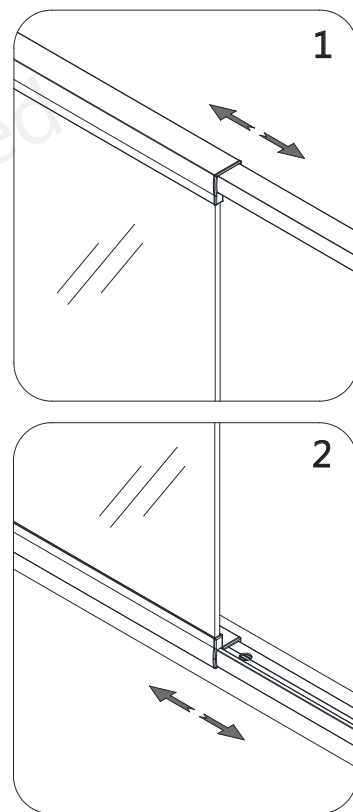

Fig 6
- 6.** Place the assembly onto the threshold at the desired location and extend the expandable **Top & Bottom Pivot Rails (#15)** evenly. **(Fig 6)**